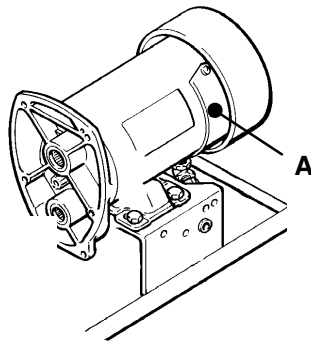

Fig 22
1. Remove the sprayer's shroud. Remove the inspection covers and gaskets (A) on each side of the motor. See Fig 22.